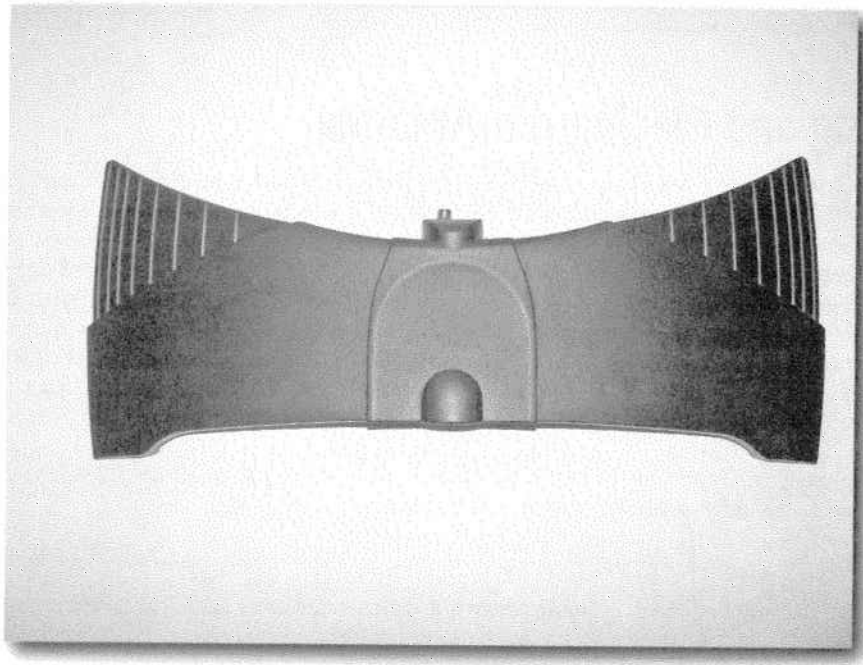

FIGURE 16-2: A flat television antenna.
- An appropriate antenna for the type of signal you want to receive (NTSC, DTV, or both), as discussed earlier in this chapter. Figure 16-2 is an example of a flat antenna that can tune both broadcast types (~\$99).